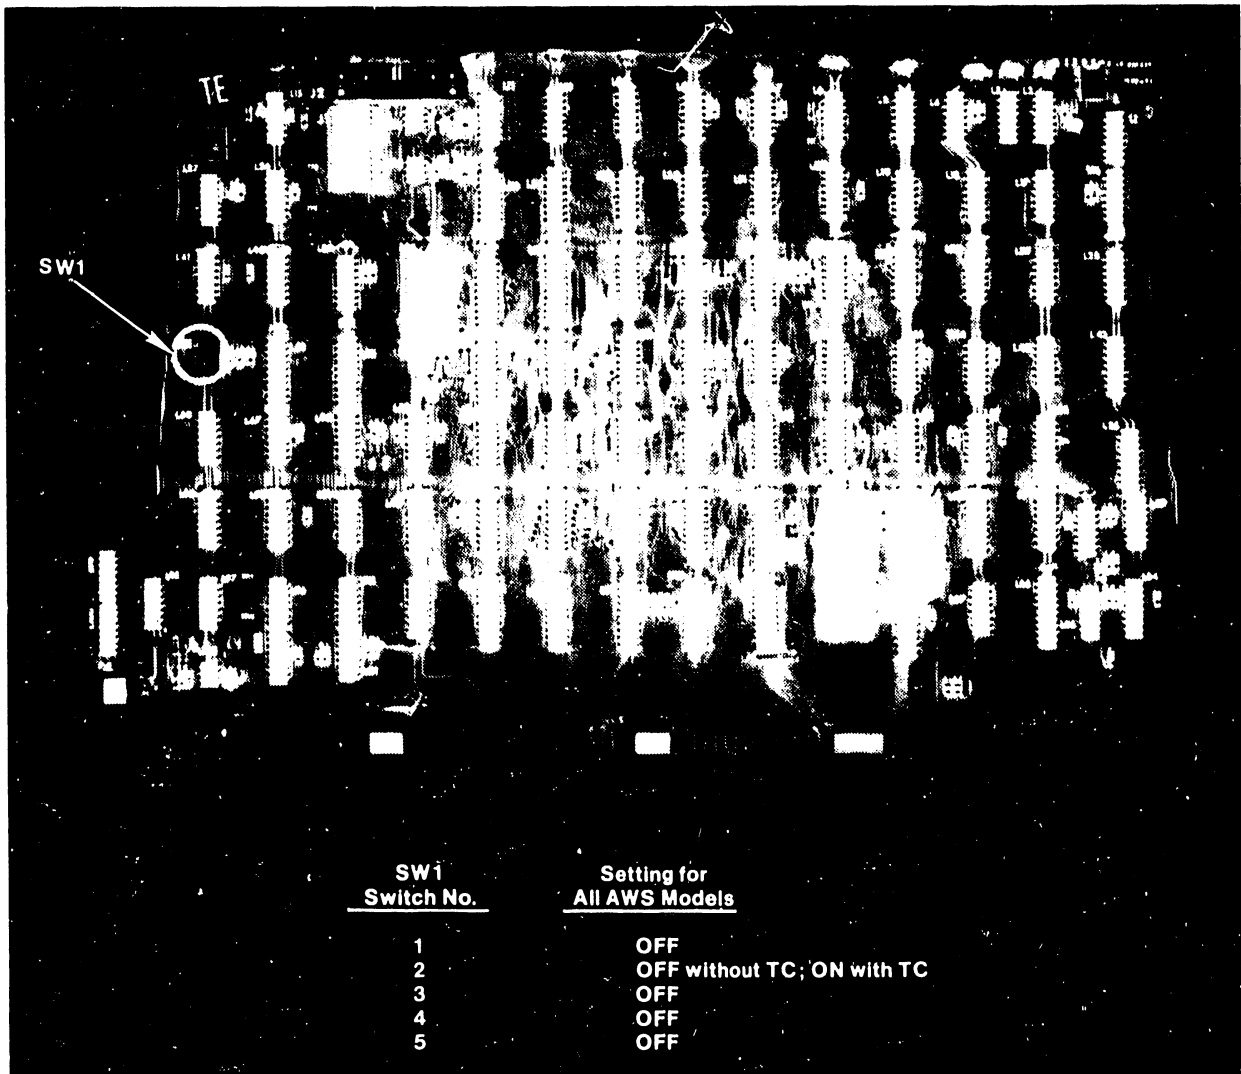

Figure 4-11 Hard Sector-Controller PCA Switch Settings
The Hard-Sector Controller PCA [210-7843-A (VS) 210-7543-A (OIS)] contains DIP switch SW1 which must be set as shown below and illustrated in Figure 4-11. All switches are OFF in units without the telecommunications option (TC). Units with TC must have switch 2 ON.